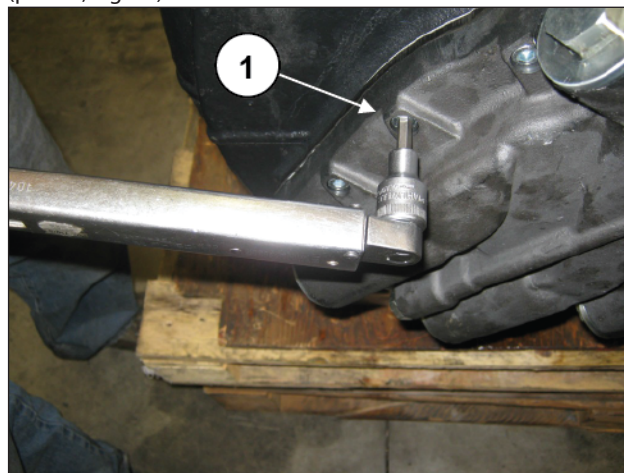
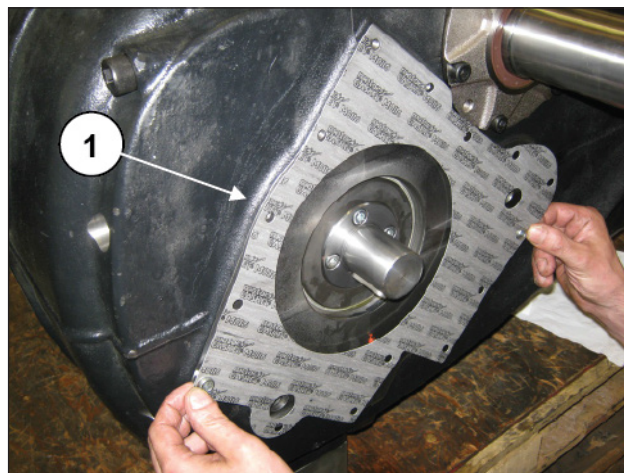

Fig. 21
Fig. 22
Remove the lube pump body by undoing the related screws (pos. ①, Fig. 21). Remove the gasket and renew it if necessary (pos. ①, Fig. 22).